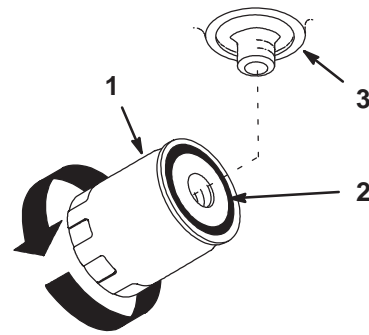

Figure 43
4. Apply a thin coat hydro fluid to the rubber gasket on the replacement filter (Fig. 43).
6. Fill the hydraulic tank with hydraulic fluid until the fluid overflows the filter and then turn the oil filter clockwise until the rubber gasket contacts the filter adapter, then tighten the filter an additional 1/2 turn (Fig. 43).